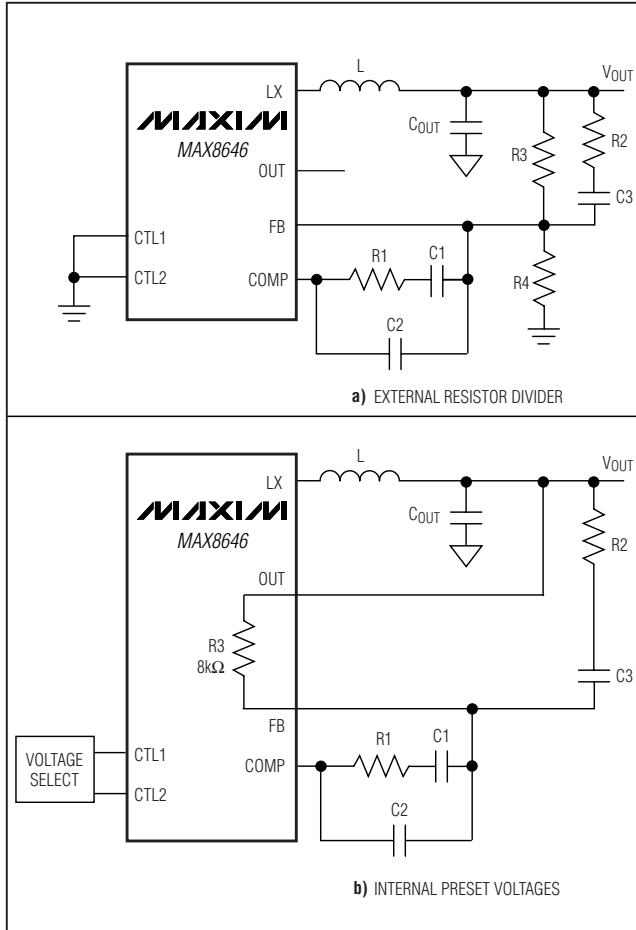

Figure 3. Type III Compensation Network
The UVLO circuitry inhibits switching when V_{DD} is below 2V (typ). Once V_{DD} rises above 2V (typ), UVLO clears and the soft-start function activates. A 100mV hysteresis is built in for glitch immunity. Figure 3 is the type III compensation network.
The high switching frequency range of the MAX8646 allows the use of ceramic output capacitors. Since the ESR of ceramic capacitors is typically very low, the frequency of the associated transfer function zero is higher than the unity-gain crossover frequency, f_C , and the zero cannot be used to compensate for the double pole created by the output filtering inductor and capacitor. The double pole produces a gain drop of 40dB/decade and a phase shift of 180°/decade. The error amplifier must compensate for this gain drop and phase shift to achieve a stable high-bandwidth closed-loop system. Therefore, use type III compensation as shown in Figures 3 and 4. Type III compensation possesses three poles and two zeros with the first pole, f_{P1_EA} , located at zero frequency (DC). Locations of other poles and zeros of the type III compensation are given by: